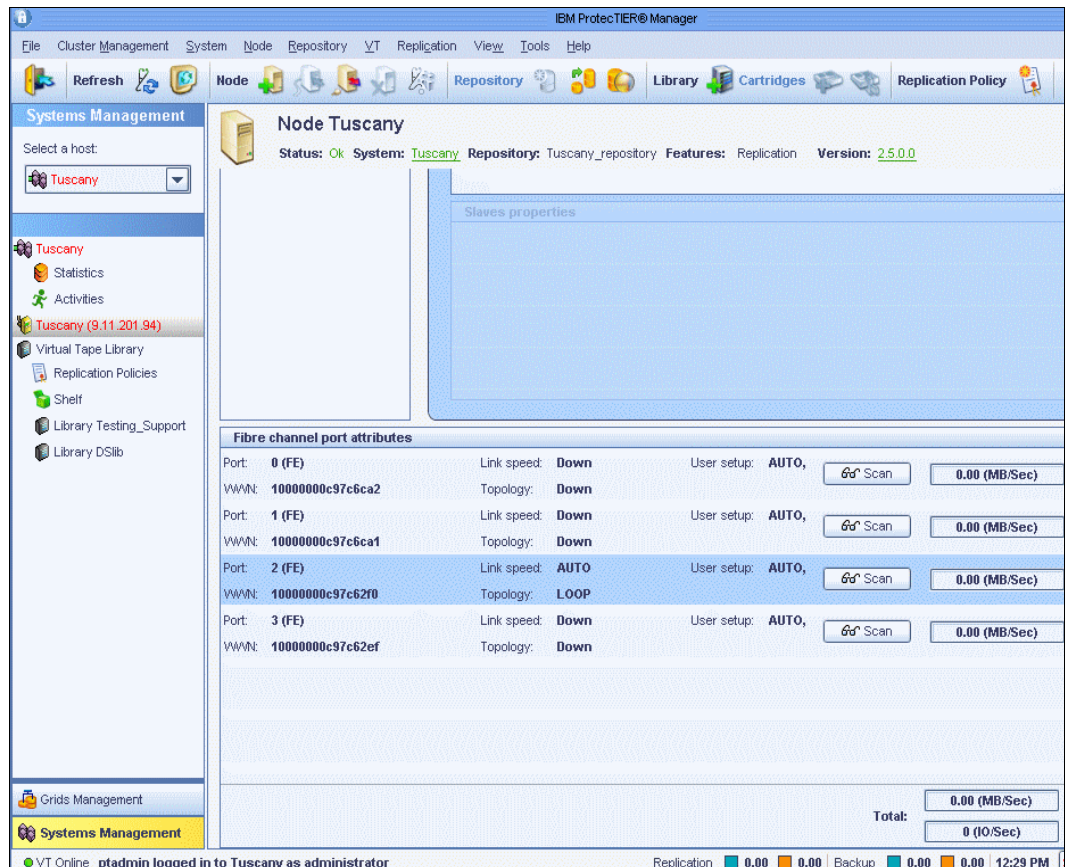

Figure 10-121 Port attribute window with new values
5. Click **Finish**. The new port attributes are set (Figure 10-121).